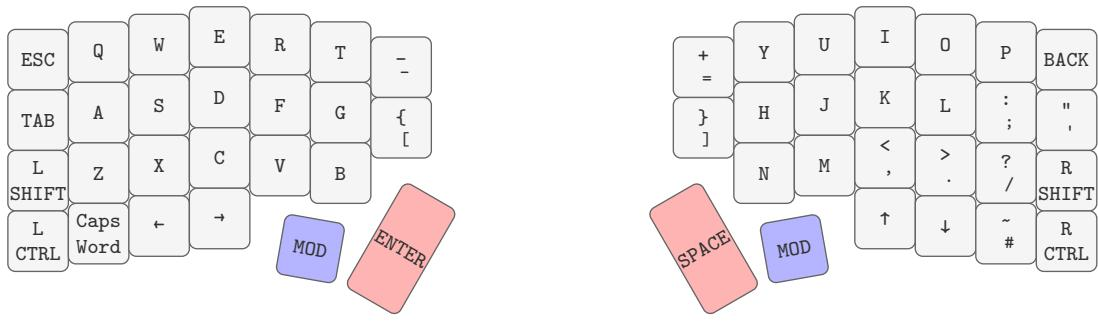

Figure 6: Single thumb key layout for layer 0
- Layer 0 single thumb key (figure 6)